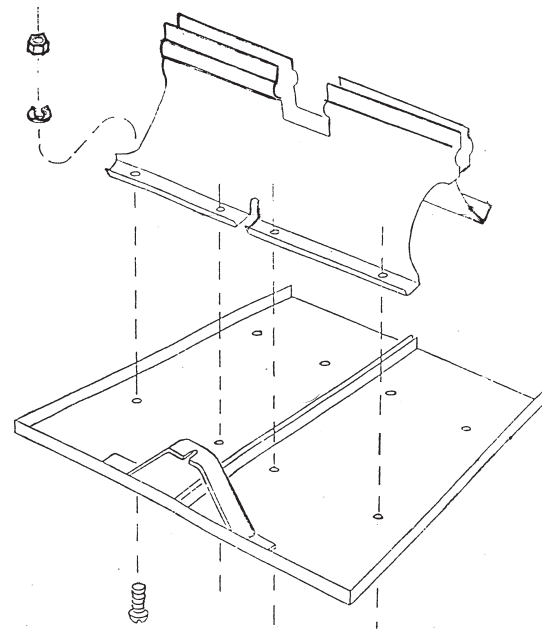

Figure 5
Step 5: Bolt the Wheel Axle Supports (#4) to the Bottom Panels (#1) using 8 Bolts (#21), 8 Washers (#23), and 8 Nuts (#24) - see Figure 5